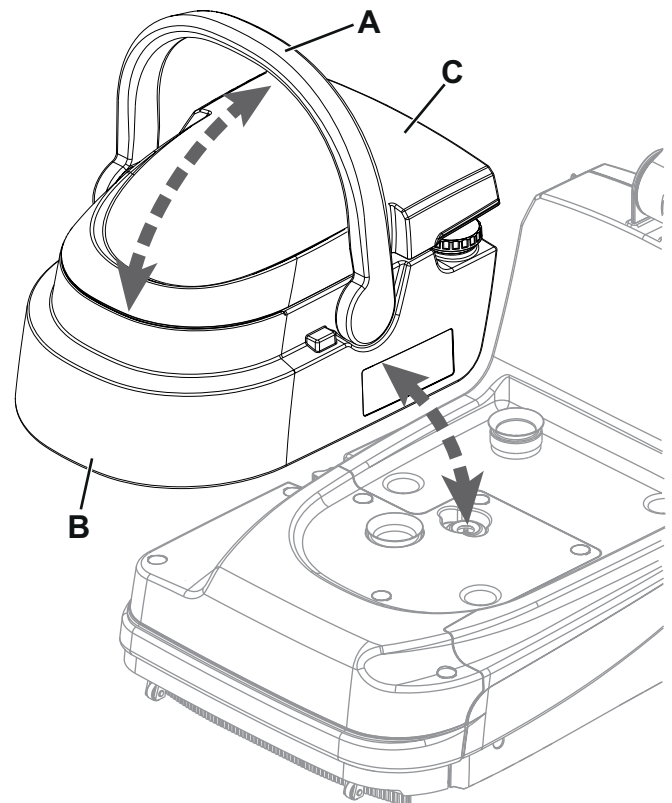

Figure 6
3. Turn and use the handle (A, Fig. 6) to lift the tanks container (B) from the machine.
4. Remove the cover (C) and empty the recovery tank; rinse the tank with clean water at the end of the work.